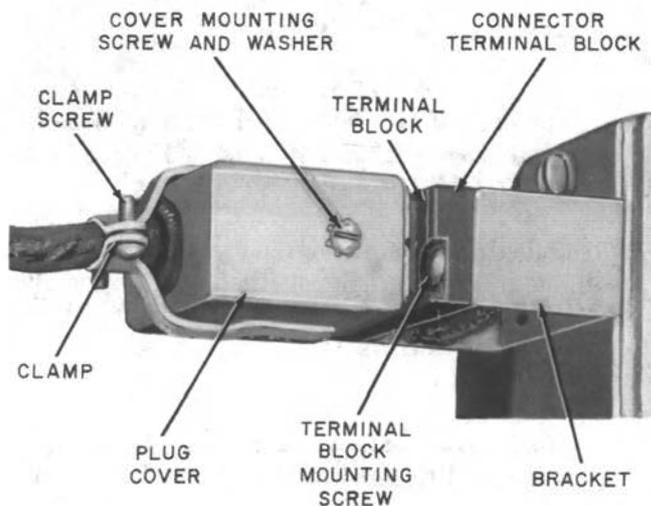

Fig. 60—Plug and Connector Assembly
3.71 Plug Assembly (Fig. 60): To replace a plug assembly, proceed as follows.
3.72 Terminal Block: To replace a connector terminal block (Fig. 60), proceed as follows.